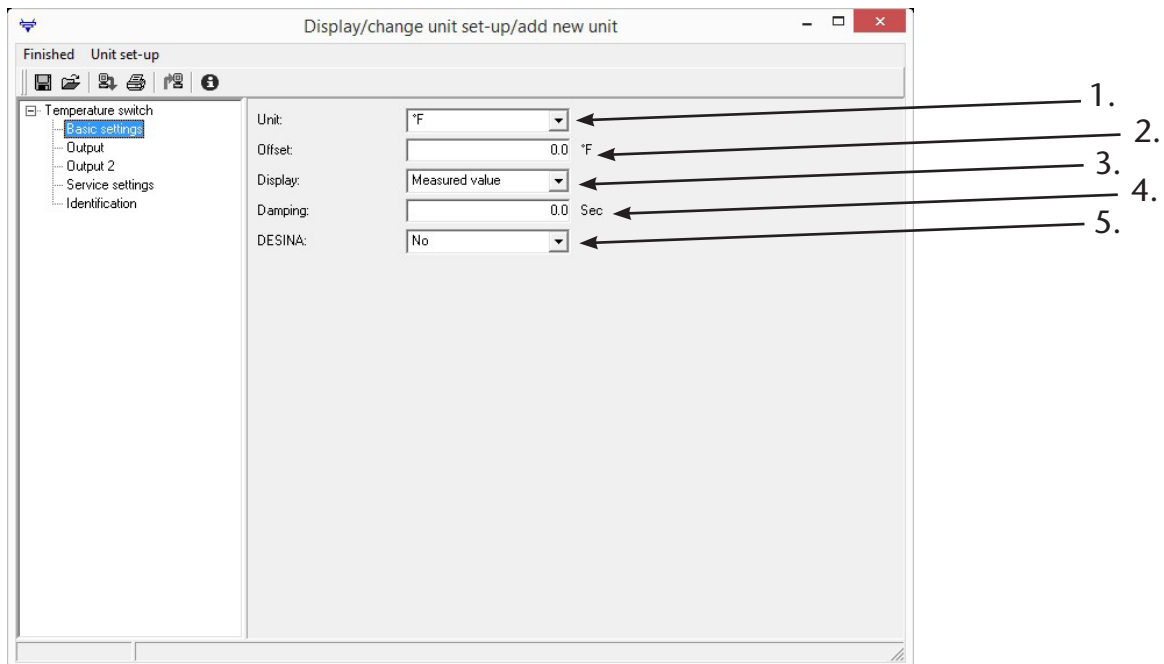
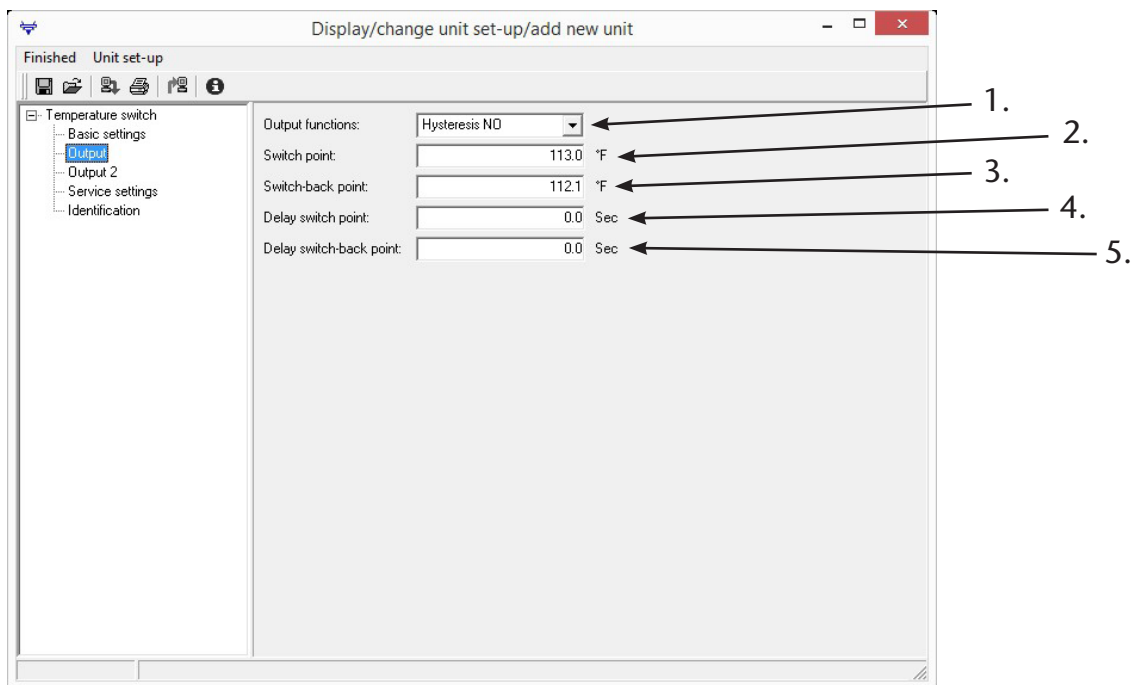
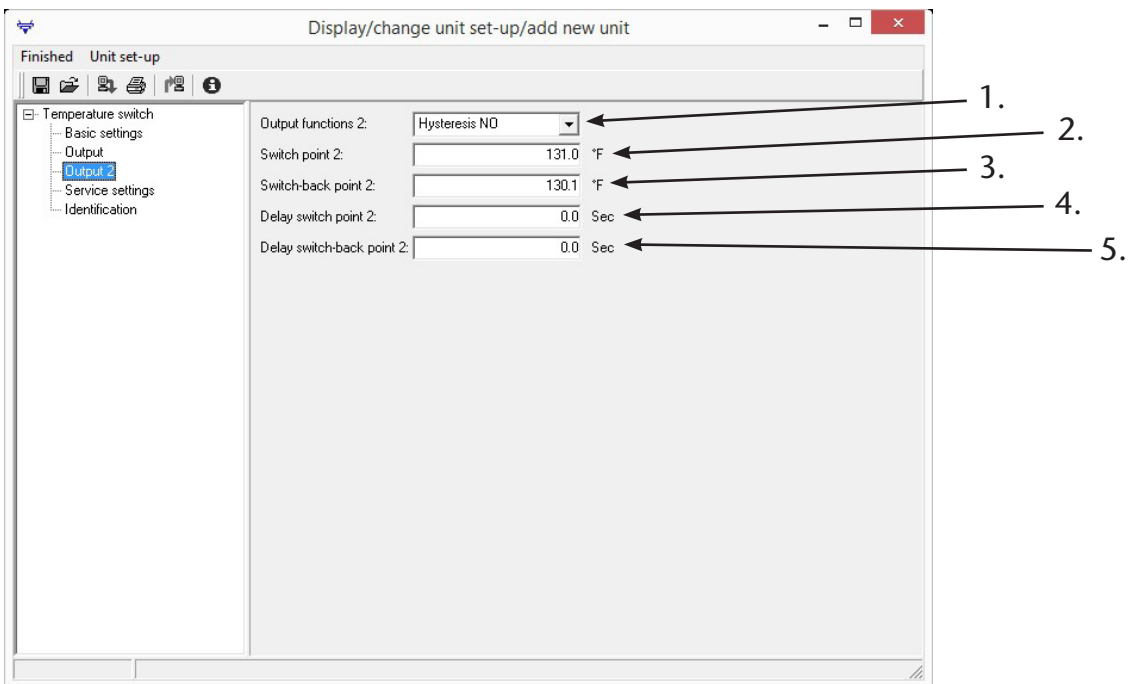
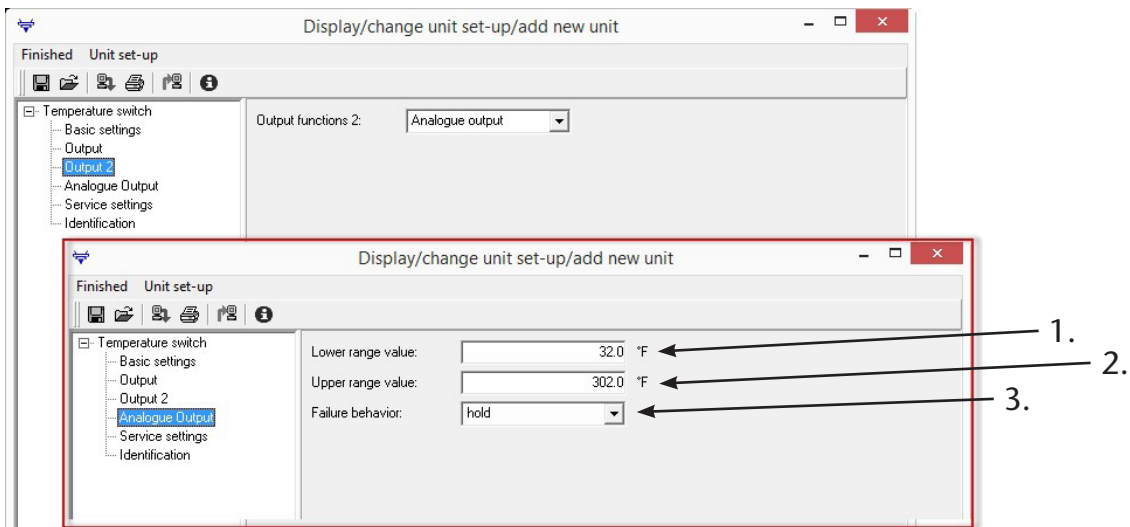

Figure 6
Figure 7
Figure 8
Figure 9
The available configuration parameters are divided into six file tree selections: Basic Settings (1) in Fig. 6, Output (2) in Fig. 7, Output 2 (3) in Fig. 8, Analog Output (4) in Fig. 9, Service Settings (5) in Fig. 10, Identification (6) in Fig. 11. The availability of some parameters is dependent on the selections of other parameters.
Basic Settings (Figure 6)
Output (Figure 7)
Output 2 (Figure 8)
Analog Output (Figure 9)